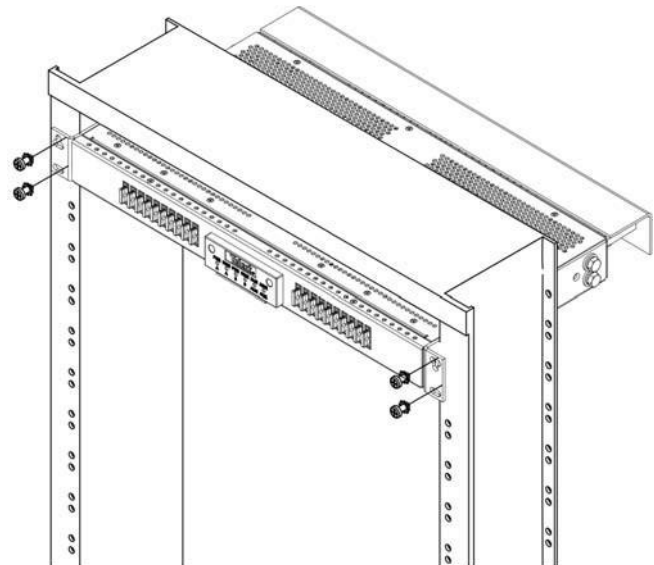

Figure 3 - Rack Mounting
2. Locate an unused rack position, normally at the top of the rack. Mount the panel to the rack using four, #12-24 thread-cutting screws and lock washers provided, as shown in Figure 3.